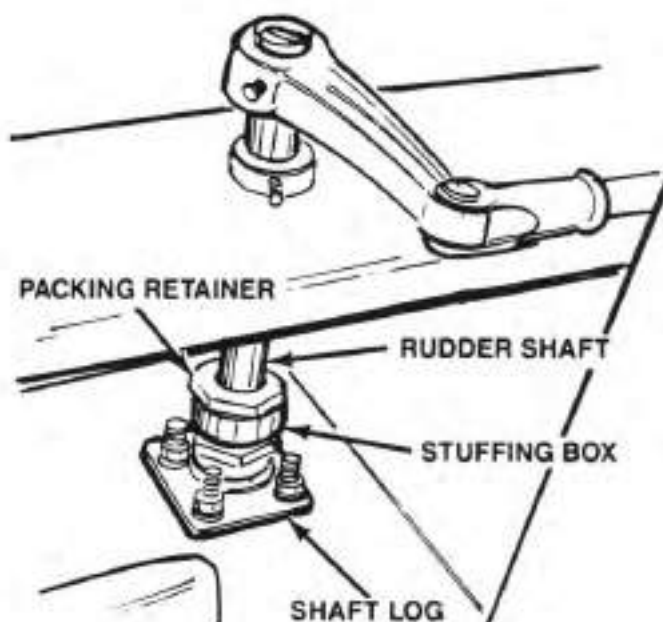

Figure 5-3 – Rudder Stuffing Box
14. Check the rudder shaft stuffing box for leaks. (See **Figure 5-3.**) A slight leak (one drop every 60 seconds) is desirable because it helps lubricate the packing.